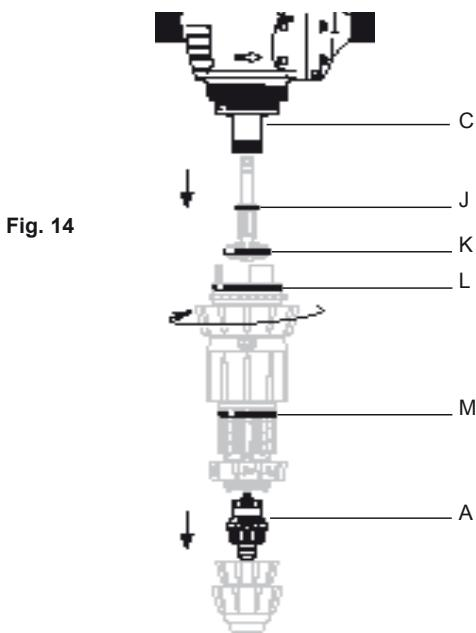

Fig. 14
- Change out the isolation body (**Fig. 14-C**), the seals (**Fig. 14-J/K/L/M**) and the suction valve assembly (**Fig. 14-A**).